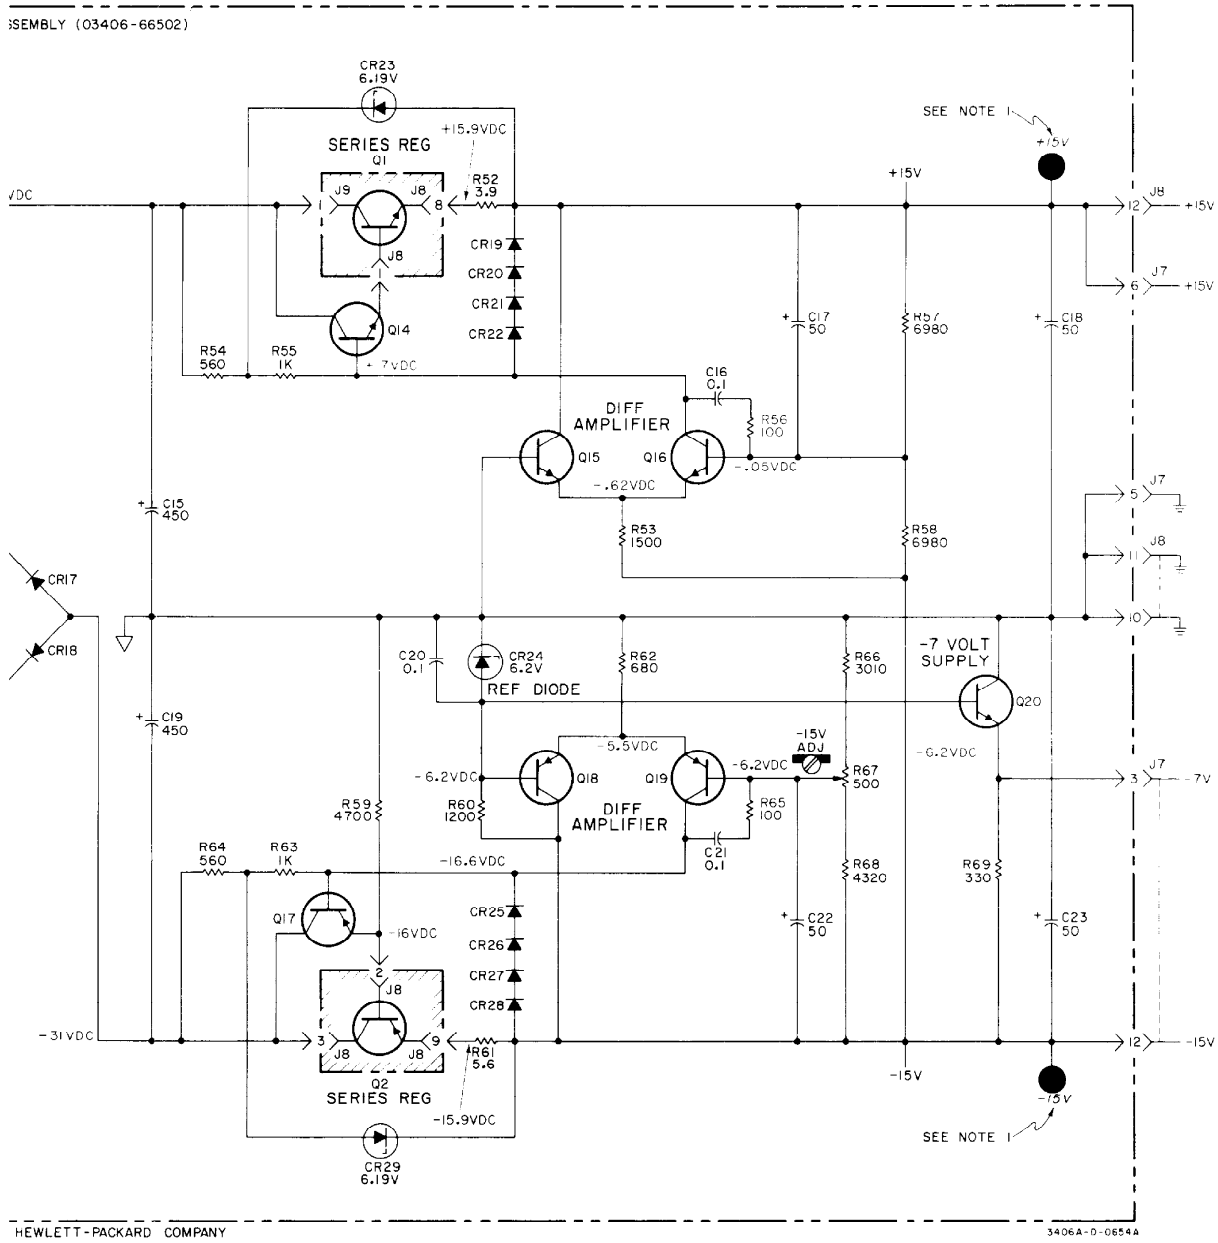

Figure 7-10. Power Supply Circuit
1. Change the calibrator schematic in Figure 7-9 and the A3 Assembly component location diagram in Figure 7-10 as shown below: